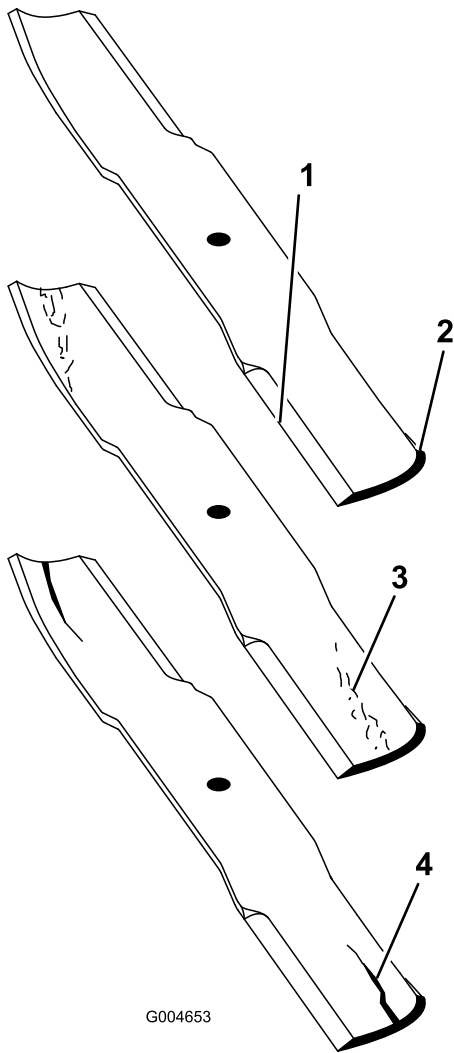

Figure 86
2. Examine the cutting ends of the blade carefully, especially where the flat and curved parts of the blade meet (Figure 86). Since sand and abrasive material can wear away the metal that connects the flat and curved parts of the blade, check the blade before using the mower. If wear is noticed (Figure 86), replace the blade.